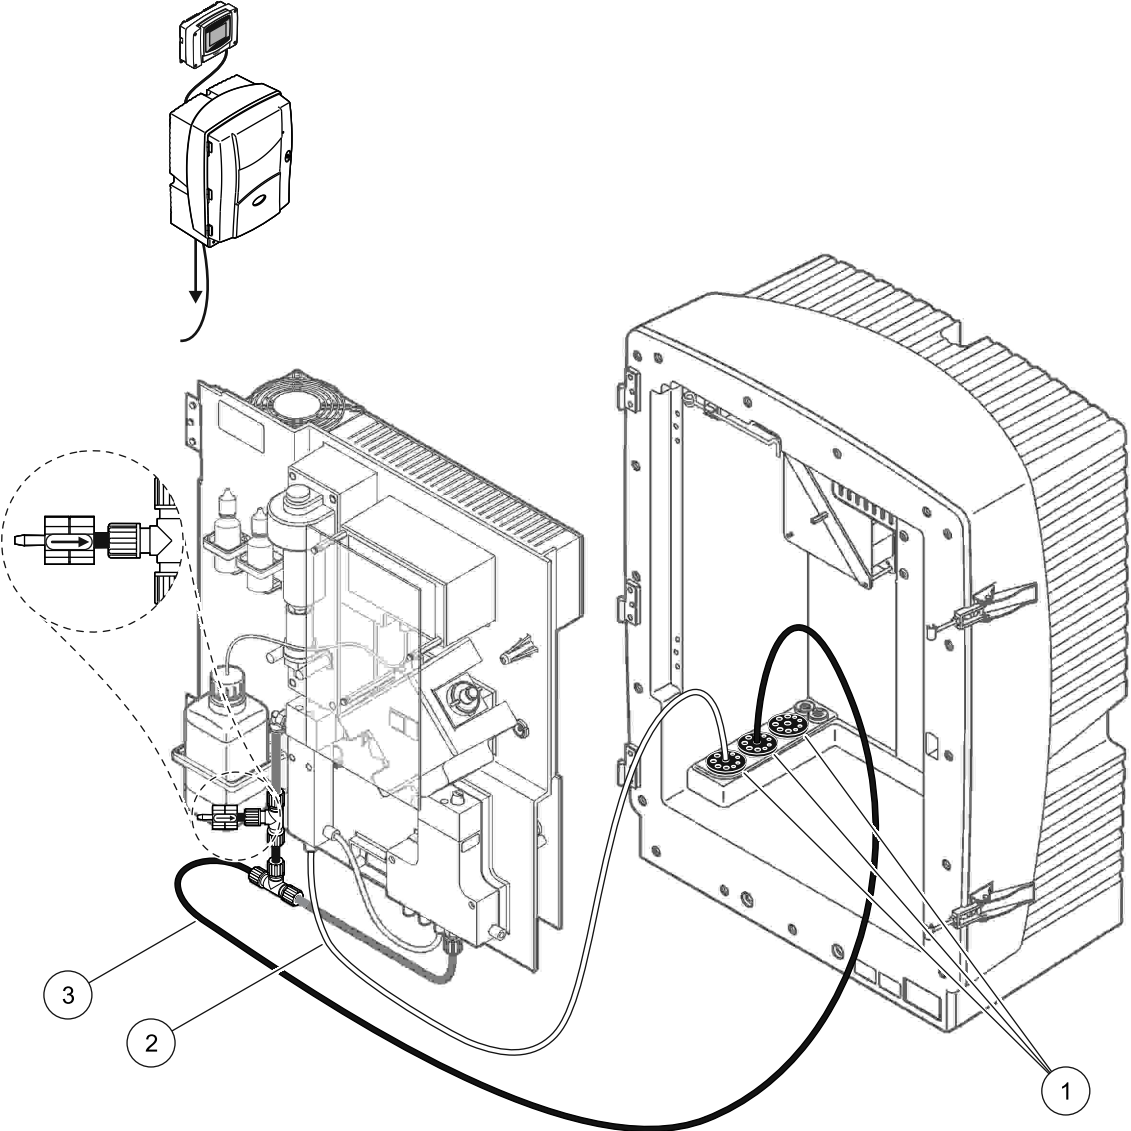

Figure 40 Option 10a setup
Refer to Figure 40 and the following instructions for Option 10a:
2. Feed the sample line from the sample preparation unit through the analyzer (Figure 40, item 2). Use Seal Plug #3 to secure.
3. Feed the drain tube through the analyzer (item 3). Use Seal Plug #3 to secure.